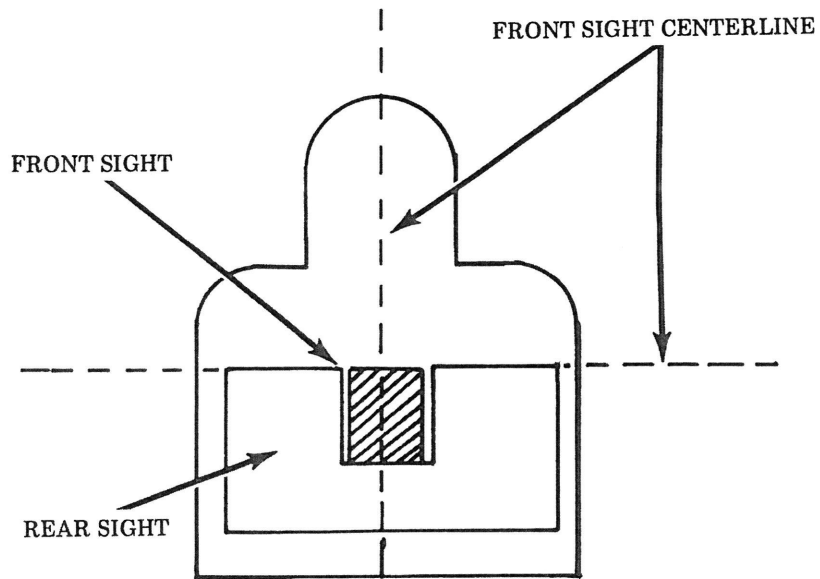

Figure 4-5. Correct Target and Sight Picture
c. Cam the front and rear sight to the 6 o'clock position on the target. The correct sight picture is shown in figure 4-5. If sight adjustment of the revolver is necessary, refer to paragraph 1-13.
b. Aim front and rear sight to the 6 o'clock position on the target. (See figure 4-5.)